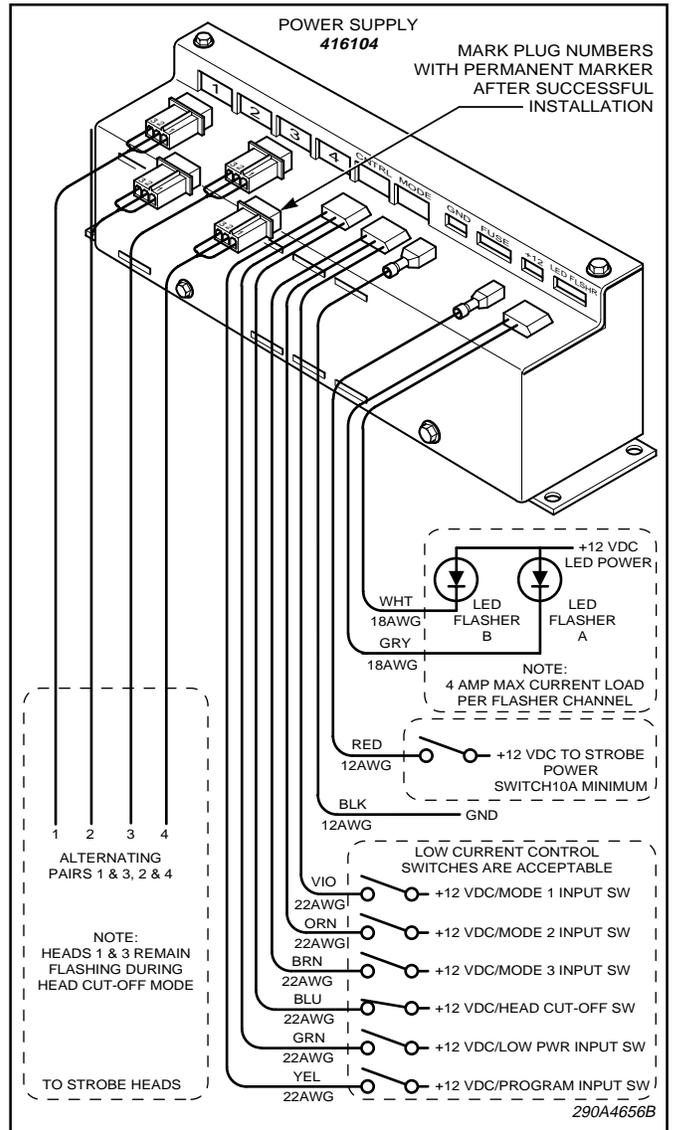

Figure 2.
See figure 2 while completing the electrical connections.
7. See figure 2 and proceed as follows: